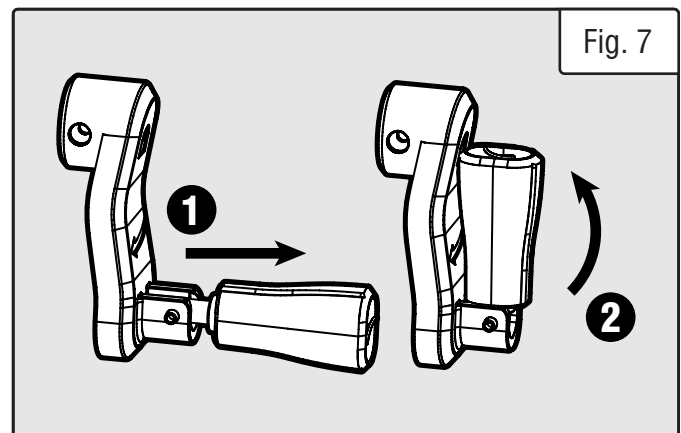

Fig. 7
2. To fold the clamp adjustment handles, pull the handles outward and then fold them upward as shown in Fig. 7.